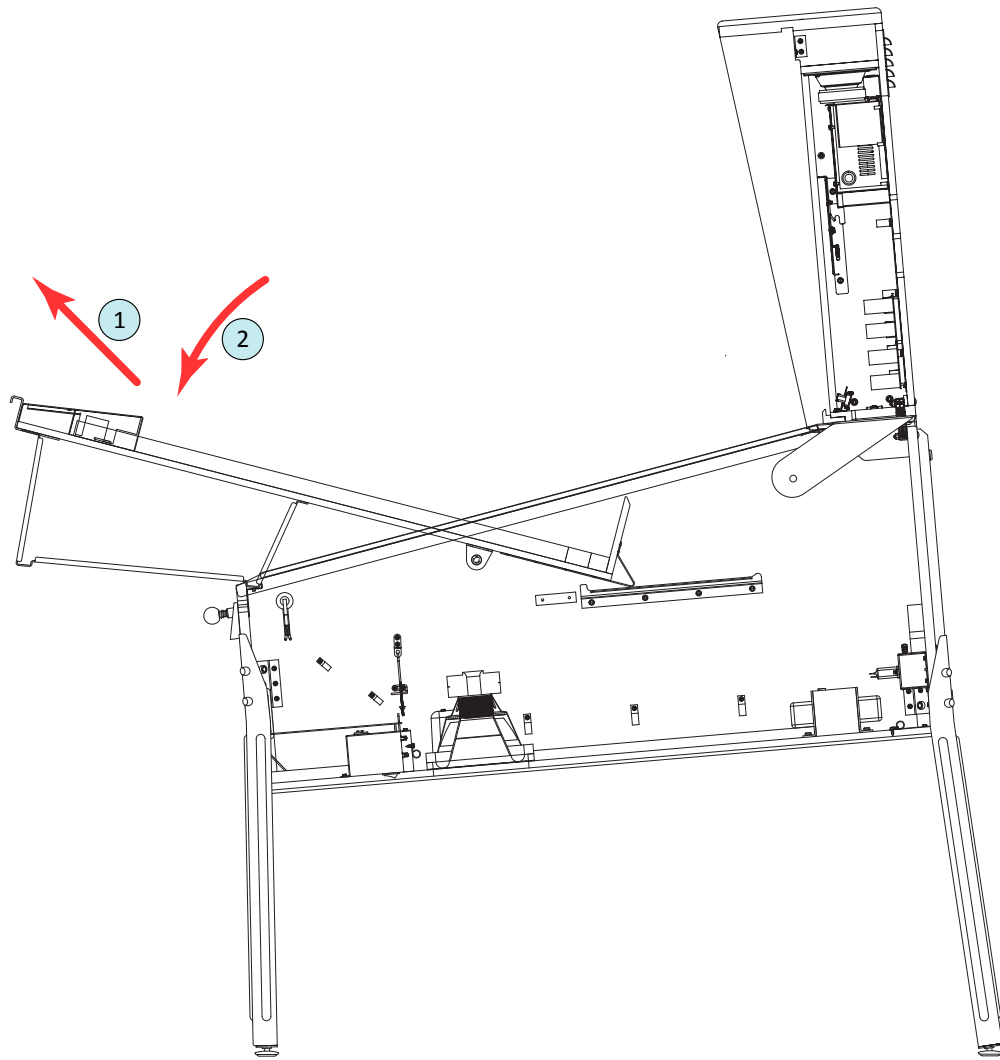

Figure A13. Moving the playfield to position 3.
14) Move the playfield from position 2 to 3 (figure A13). Pull it upward and outward until the second pair of feet in the support brackets reach the top of the lockdown bar receiver; again, lower the playfield, resting the feet in the channel.